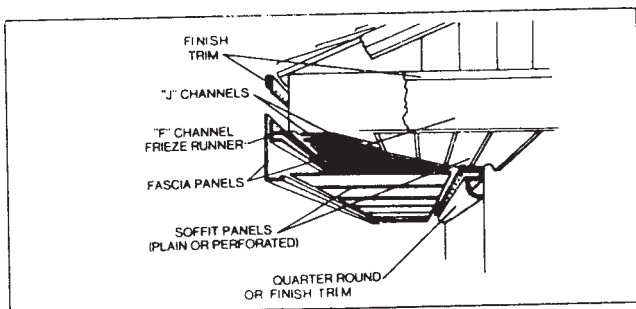

FIG. 33 Application of Soffit and Fascia
11. Application of Soffits and Fascia (See Fig. 33.)